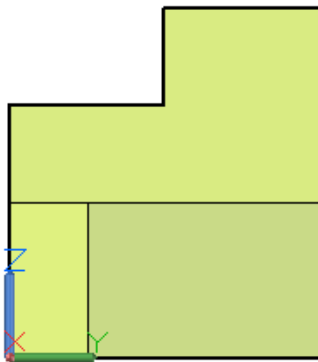

Figure Step 12
Step 12 Change the current view to Right. (Figure Step 12)